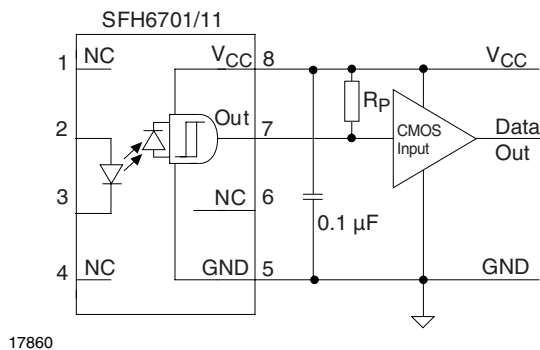

Fig. 12 - Interfacing SFH67XX (Totem Pole Output) to CMOS Logic
- Using SFH67XX (totem pole) and a pull-up resistor (see figure 12)